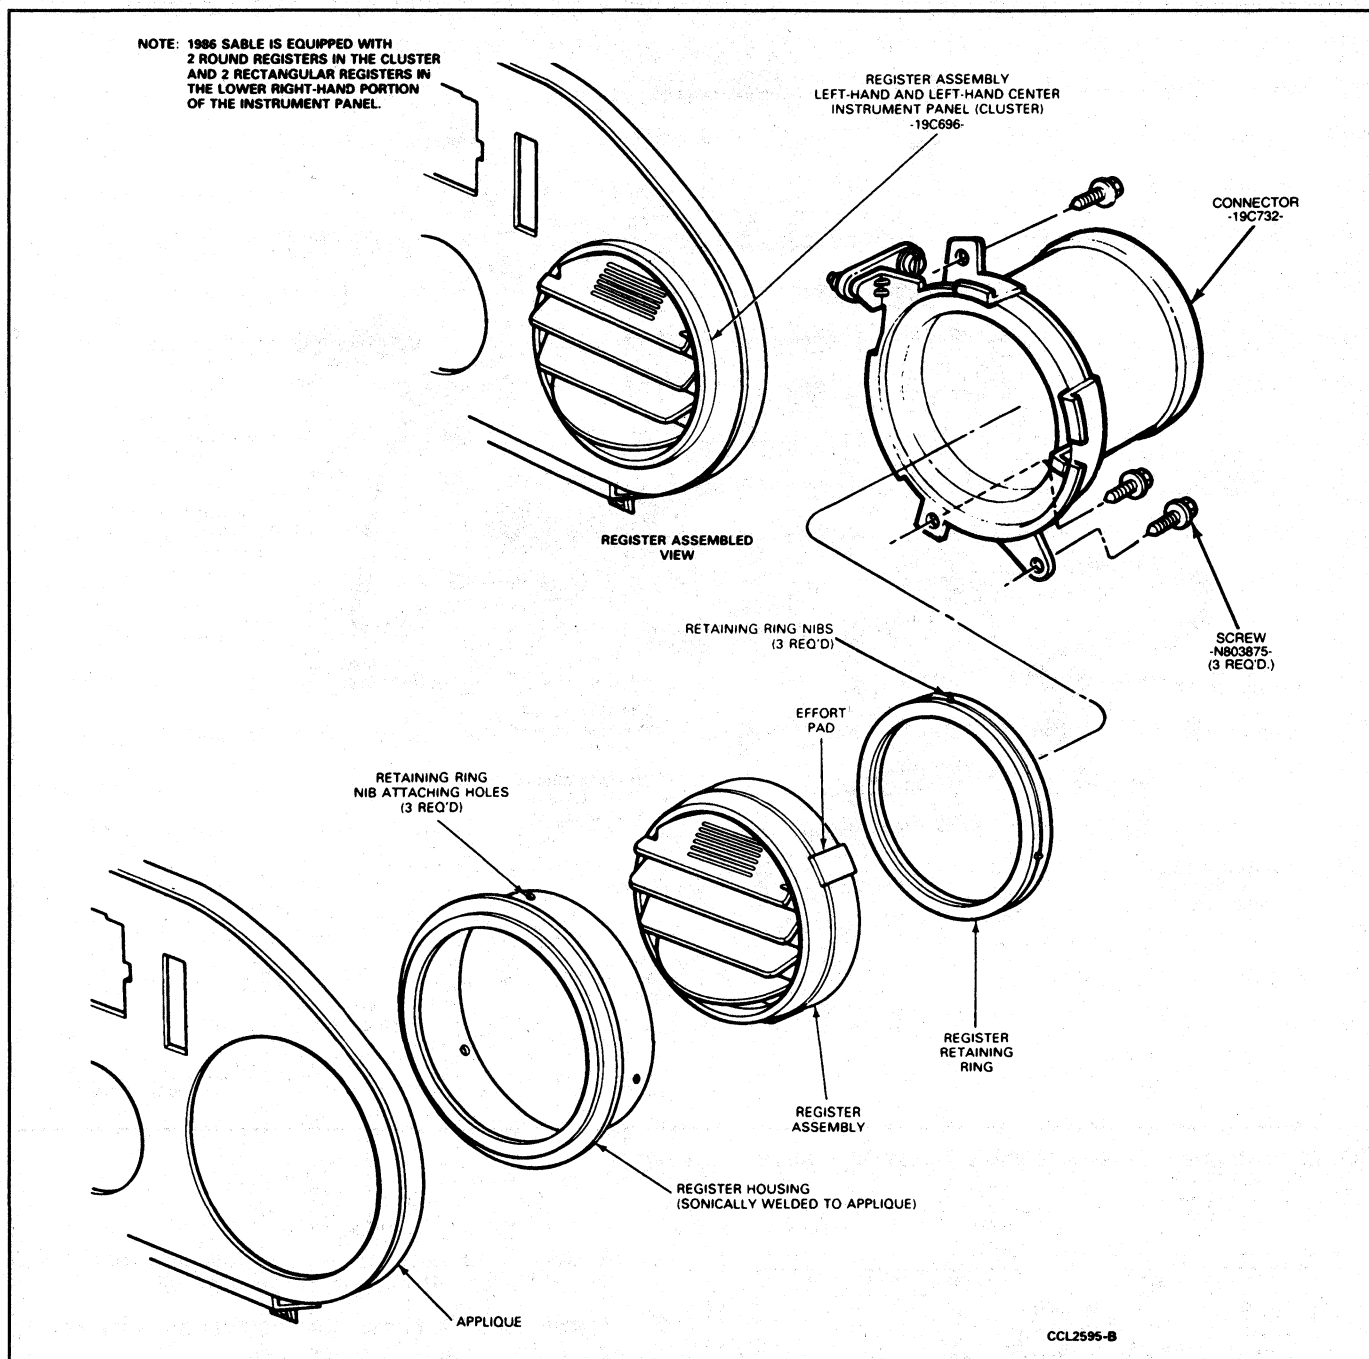

FIG. 23 Register Assembly, Round—Removal
2. Remove three screws which attach connector to instrument panel (Fig. 23).